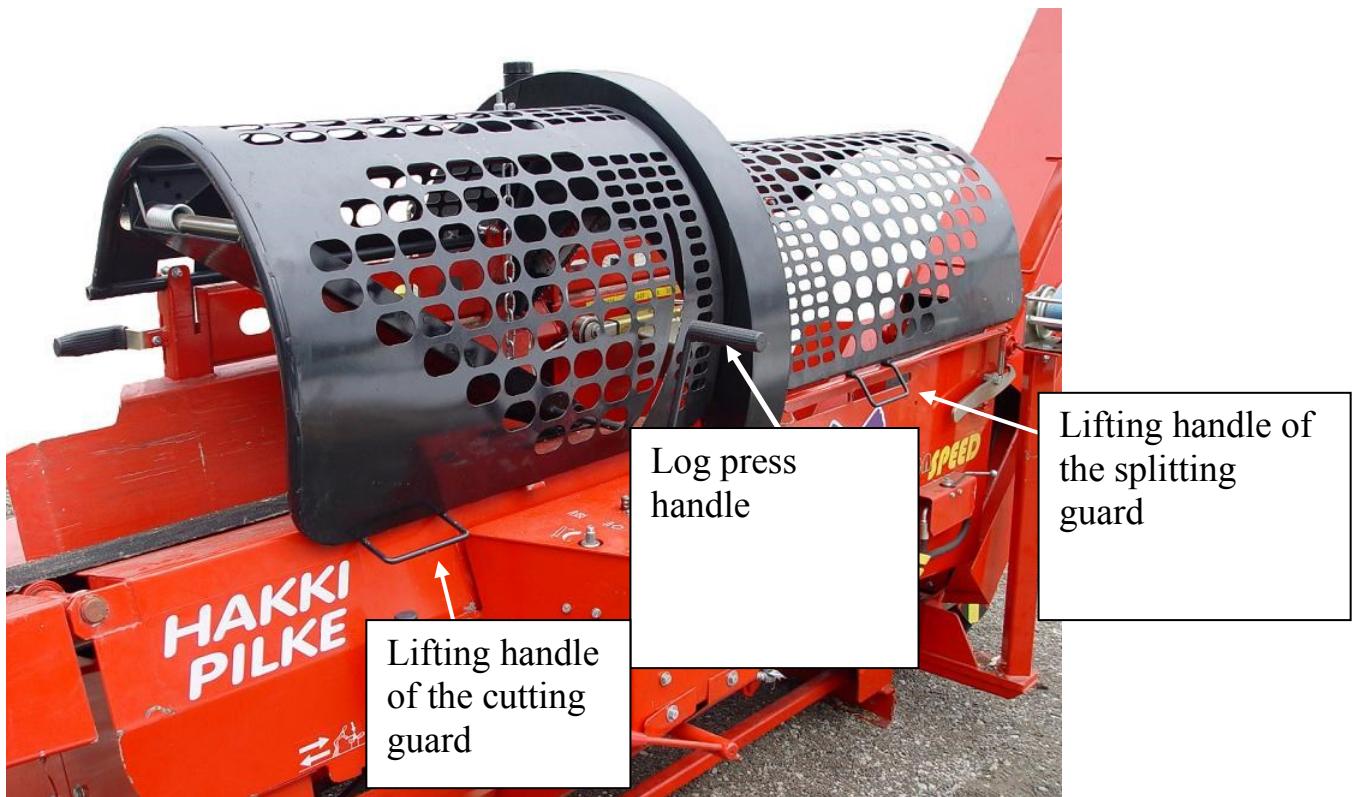

Figure 820
Figure 820 shows the lifting handles of the cutting and splitting guards, as well as the handle of the log press roll head from which the log press can be lifted, if necessary.
- The splitting and cutting guards are in the operating position (Figure 820).